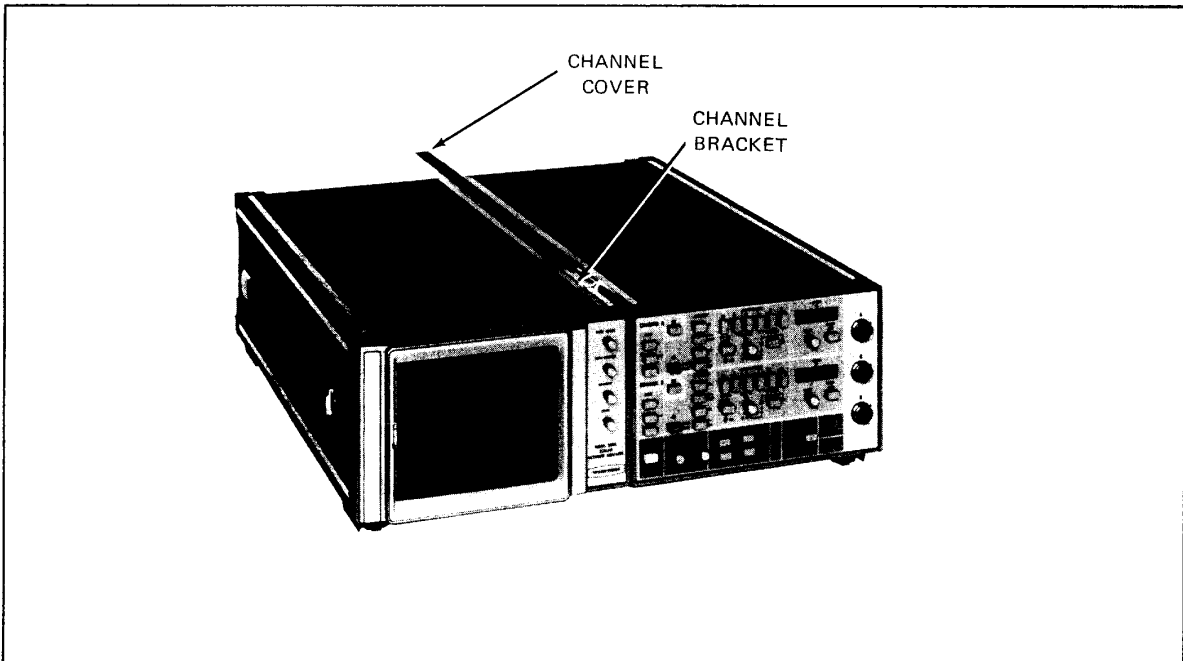

Figure 7-137. 560A Horizontal Configuration With Channel Cover and Channel Bracket Indexed
- (d) Remove top channel cover (Figure 7-137) from between CRT mainframe and network analyzer sections.